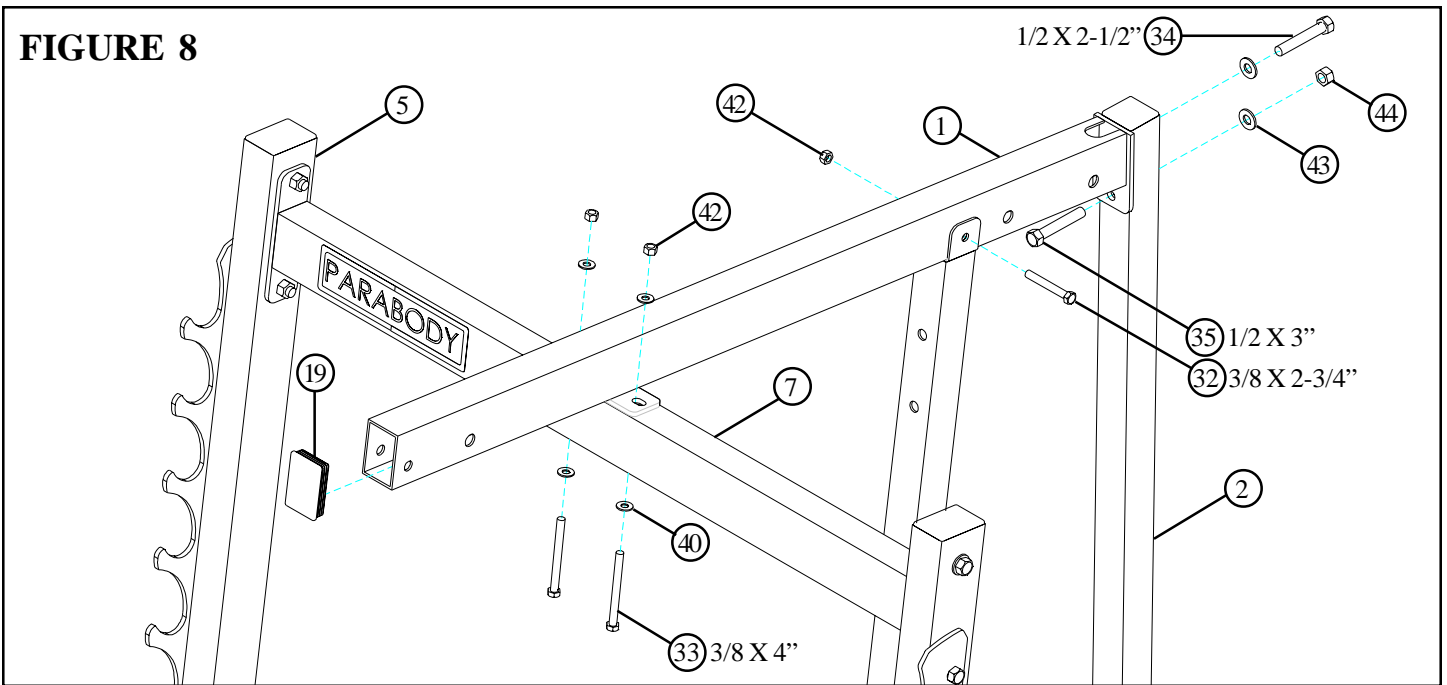

**FIGURE 7**
- Assemble the LEFT & RIGHT SAFETY RAILS (11 & 12) to the FRONT UPRIGHTS (5) as shown in FIGURE 7.